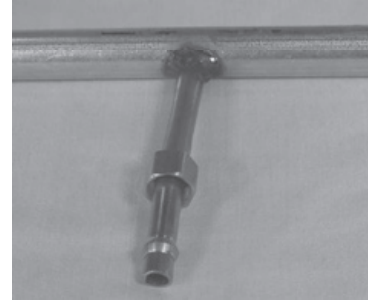

Figure 9
7. Place the ember burner pipe, PORT HOLES DOWN or facing the floor, into the compression fitting, on the end of the ember burner gas feed. **See Figure 9.**